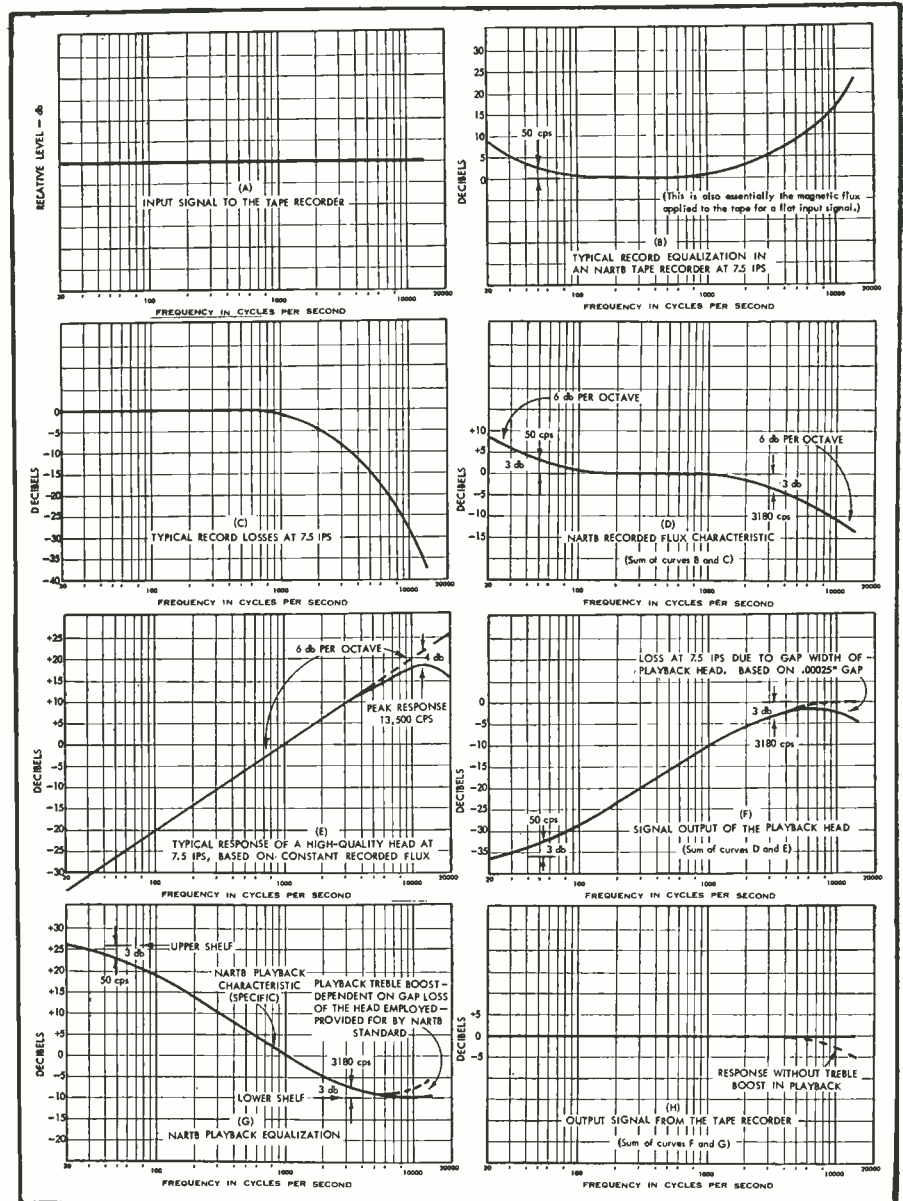
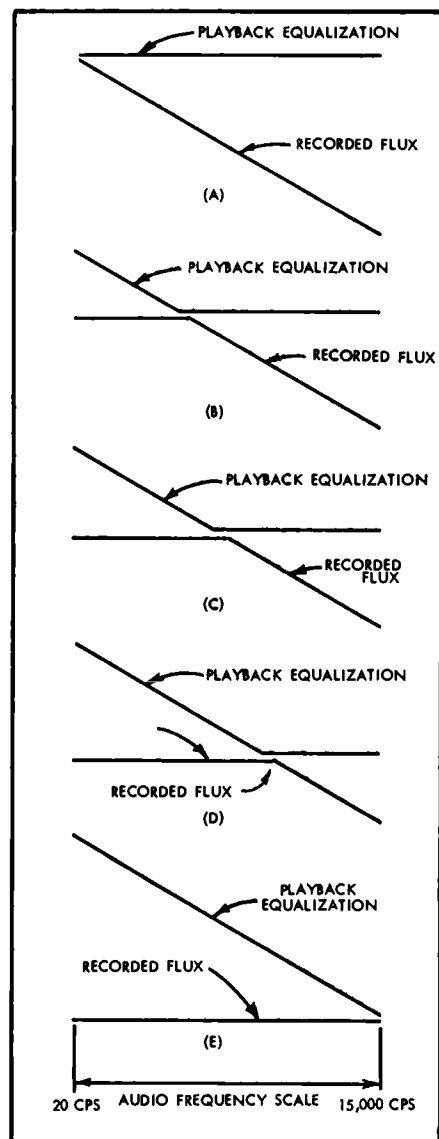

Fig. 2. Eight curves tracing the equalization process through a tape recorder and its associated amplifiers from signal input to playback-signal output.
Fig. 4. Five possible combinations of recorded flux and playback equalization which combine to produce an over-all flat response curve.
Using NARTB equalization for purposes of illustration, Fig. 2, in eight parts, traces the equalization process in a tape recorder from signal input to signal output.
To find the answers, let us commence with the fact that the response of a high-quality playback head at 7.5 ips essentially rises 6 db per octave with increasing frequency. For simplicity, we shall ignore the relatively slight head losses of (E) in Fig. 2. Thus playback head response may be depicted in the simple fashion of (A) in Fig. 3.
Obviously, the rest of the tape recording system must then have a slope that declines 6 db per octave with increasing frequency, as shown at (B) in Fig. 3. From the discussion pertaining to Fig. 2 it can be realized that such a declining
slope is due to two factors: (1) recorded flux; (2) playback equalization. If the reader takes the trouble to add the curves (D) and (G) of Fig. 2, he will see that they produce a straight line declining 6 db per octave with increasing frequency.
Thus recorded flux and playback equalization bear a complementary relationship to each other, the sum of the two being a 6-db-per-octave declining slope. Given either characteristic, the other is implicitly defined. (Since we are here ignoring treble losses due to the playback head, it is assumed there is no treble boost in playback. If there were treble boost in playback, then the reference to playback equalization would be exclusive of any treble boost intended to compensate playback head losses. Thus in the case of (G) in Fig. 2 the reference would be only to the solid line.)
Recorded flux and playback equalization may be combined with each other in an infinite number of ways to produce the 6-db-per-octave slope. Five possibilities appear in Fig. 4. For ease of illustration, the characteristics are shown with sharp transition points—turnover frequencies—although in actuality they would have the gradual transition of Fig. 2. Furthermore, for simplicity, the 50-cps turnover frequency is ignored.
In Fig. 4, (A) represents a situation where recorded flux declines 6 db per octave throughout the audio range, so that zero playback equalization is required. At the other extreme, (E) in Fig. 4 indicates constant recorded flux throughout the audio range, in which case playback equalization must rise
with declining frequency throughout the spectrum. (B), (C), and (D) of Fig. 4 are intermediate cases, where both the recorded flux and playback equalization have turnover frequencies. As recorded flux changes from flat to a 6-db-per-octave slope, playback equalization undergoes a complementary change from a 6-db-per-octave slope to flat.
At 7.5 ips, (A) in Fig. 4 is unrealistic because it is extremely wasteful of signal-to-noise ratio. Taking into account the nature of record losses at this speed and the permissible record treble boost, based largely upon the distribution of audio energy over the spectrum, more flux could be applied to the tape without overloading it; therefore a good deal more flux could also be recorded on the tape, resulting in an improved ratio in playback between audio signal and noise produced by the tape (hiss) and the playback amplifier.
On the other hand, the recorded flux of (E) in Fig. 4 is virtually impossible to achieve at 7.5 ips in the present state of the art (although feasible at 30 ips). Excessive record treble boost would be needed to overcome the record losses indicated at (C) in Fig. 2 at 7.5 ips. Such treble boost would produce considerable distortion by overloading the tape.
Between the extremes of (A) and (E) of Fig. 4 are combinations of recorded flux and playback equalization practical at 7.5 ips. (B) and (C) may be viewed as approximating equalization practices found in moderate-price recorders. It can be seen immediately that these practices involve fairly limited playback bass boost, thereby mitigating the problem of hum, which of course becomes more severe as such boost increases. Also, they indicate inferentially that relatively moderate amounts of treble boost are needed (because of substantial decline in recorded flux), which permits a saving in gain and tubes in the record amplifier.
(D) in Fig. 4 represents a tape recording system conforming to the NARTB standard. The recorded flux is just about as much as can be put on the tape at 7.5 ips without incurring appreciable distortion due to the large amount of treble boost required in the record amplifier, on the order of 23 db at 15,000 cps as indicated at (B) in Fig. 2. In complementary fashion, a great deal of playback bass boost is necessitated—36 db all told—so that very careful precautions against hum must be exercised in playback. In exchange for these disadvantages, namely a close risk of distortion and greater danger of hum, one obtains a high signal-to-noise ratio because of the relatively large amount of recorded flux.
Fig. 2. The step function (A) (an instantaneous voltage change) is fed in, is amplified to give (B), which produces (C) across the feedback resistor, which when amplified produces (D). If we modify things to avoid a theoretical blockage, the output becomes (E).
That is just what you expected me to write, and it just is not true. When we first apply the input signal E_1 , the feedback voltage E_3 is zero, so the whole of E_1 is applied to the input of the amplifier. That is why we want to make R small. The signal goes humping through the amplifier and after a certain amount of time—which, even though it might only be 10 microseconds, is still time—reaches the output as $A E_1$. This is the state reached at (B) of Fig. 2, the input signal being that of (A). After some further time the message is passed back through B that there is an output, and E_3 leaps smartly up to $A B E_1$. To the amplifier this seems as though a new signal has been added to the one already there, but in the opposite polarity. There are some rather tricky theoretical reasons why we cannot explore in too much detail what happens to this perfectly square wave. Put rather simply, for the perfectly square step we need an infinite frequency band and for the finite time of travel we need a phase characteristic which increases with frequency. For stability, however, the phase must not exceed 180 deg. at the maximum frequency. This is one of those problems you run into sometimes when people ask you if you can explain something really simply; actually, you can, only the explanation gives the wrong answer. If we make a number of approximations in the right order, however, the story told in Fig. 2 is not too far away from the truth, and you see that it shows a sort of cubist ring in the leading edge of the final output (E).